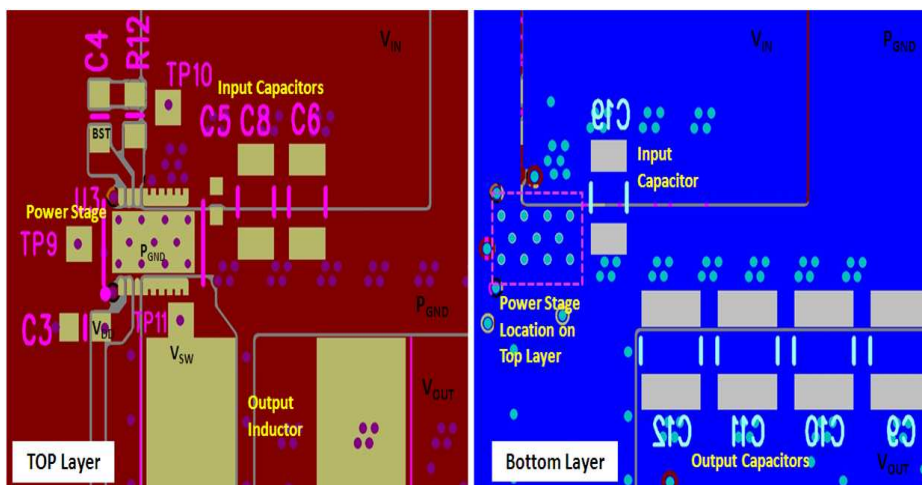

Figure 17. Recommended PCB Layout (Top Down View)
- The placement of the input capacitors relative to V_{IN} and P_{GND} pins of CSD97376Q4M device should have the highest priority during the component placement routine. It is critical to minimize these node lengths. As such, ceramic input capacitors need to be placed as close as possible to the V_{IN} and P_{GND} pins (see Figure 17). The example in Figure 17 uses 1 \times 1-nF 0402 25-V and 3 \times 10- μ F 1206 25-V ceramic capacitors (TDK Part # C3216X5R1C106KT or equivalent). Notice there are ceramic capacitors on both sides of the board with an appropriate amount of vias interconnecting both layers. In terms of priority of placement next to the power stage C5, C8 and C6, C19 should follow in order.
- Use the smallest drill size allowed in your design. The example in Figure 17 uses vias with a 10-mil drill hole and a 16-mil capture pad.